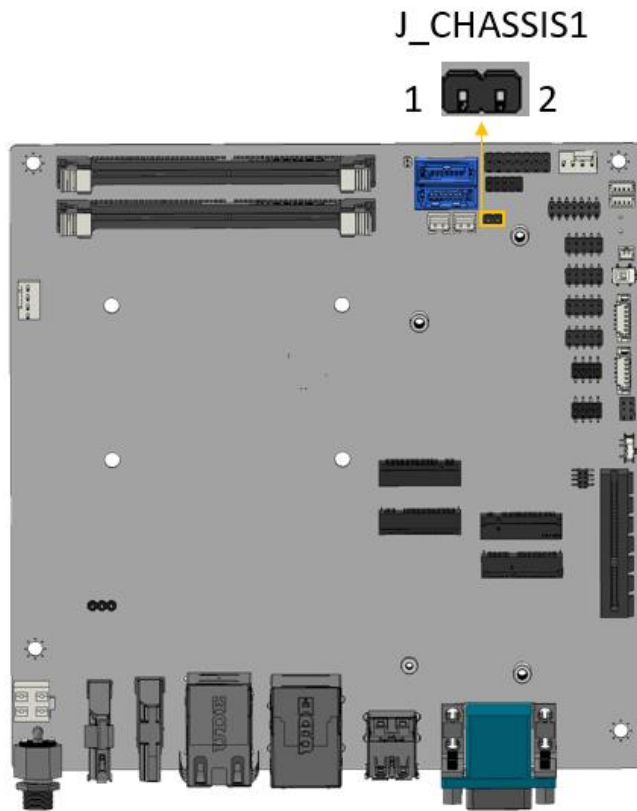

Figure 3-4: Chassis Intrusion Connector Location
- CN Location:** See Figure 3-4